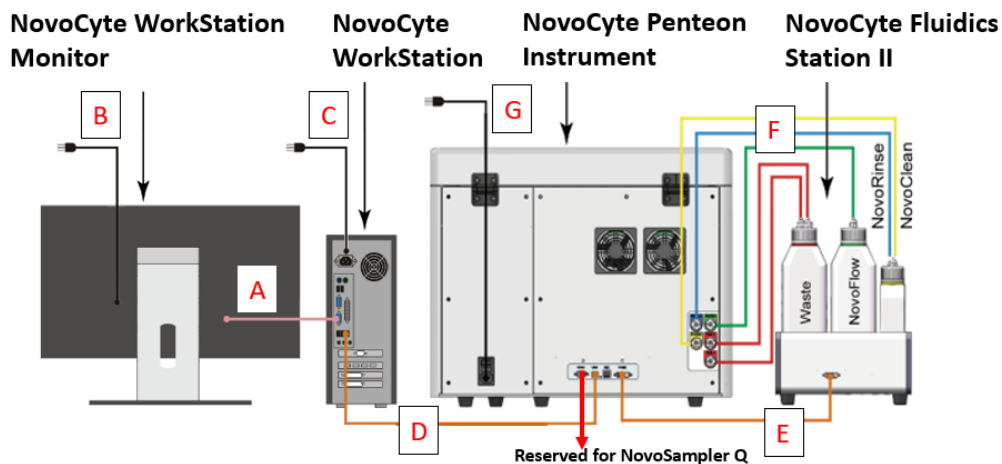

Figure 23. NovoCyte Penteon Flow Cytometer System Connection
Figure 23 illustrates the typical connection of the NovoCyte Penteon flow cytometer system. Please follow the instructions below to install each component.
- 1 Connect the workstation to the monitor using the included DisplayPort to Mini DisplayPort cable (Connection A in Figure 23). Connect the DisplayPort end of the cable to the back of the workstation. Connect the Mini DisplayPort end to the monitor.
- 3 Use the supplied USB cable to connect the NovoCyte Penteon flow cytometer to the USB port of the NovoCyte Workstation (Connection D in Figure 23).
- 4 Connect the workstation and monitor to the power supply (Connections B and C in Figure 23). For more details, please refer to the instructions from the computer and monitor supplier.
NovoCyte Fluidics Station II is connected to the COM 2 port of the NovoCyte Penteon instrument through the supplied DVI cable (Connection E in Figure 23).
Connect the NovoCyte Penteon instrument to a power supply (100-240 VAC, 50-60Hz) by connecting one end of the supplied power cord to the power port on the instrument (Connection G in Figure 23), and connect the other end of the power cord to the power supply.